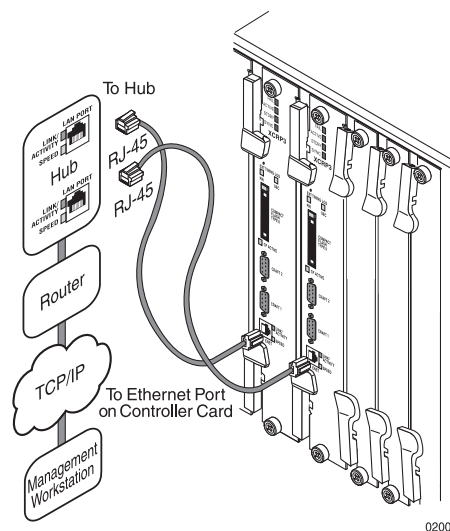
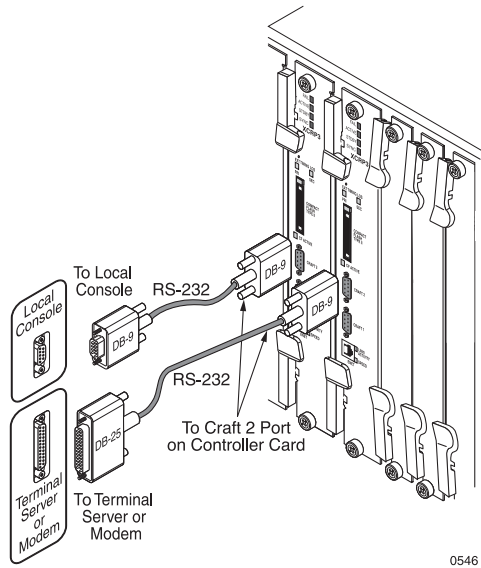

Figure 22 *Connections for a Management Workstation*
Figure 23 Connections for a Local or Remote Console
- a Management workstation; see Figure 22.
- b Console terminal; see Figure 23.
3. Connect and route the management access cables, depending on the type of management access you have selected; see Figure 22 for connecting a management workstation and Figure 23 for connecting a local or remote console.
A management workstation is connected to the SmartEdge 800 router using the Ethernet port on the front of a controller card. This type of connection provides access to the SmartEdge OS command-line interface (CLI) after you have configured the port. Figure 22 shows the connections to the Ethernet ports on a pair of controller cards.
A local or remote console terminal is connected to the SmartEdge 800 router using the Craft 2 port on the front of a controller card. This type of connection provides access to the SmartEdge OS CLI, either directly or through a terminal server. Figure 23 shows the connection to the Craft 2 port.